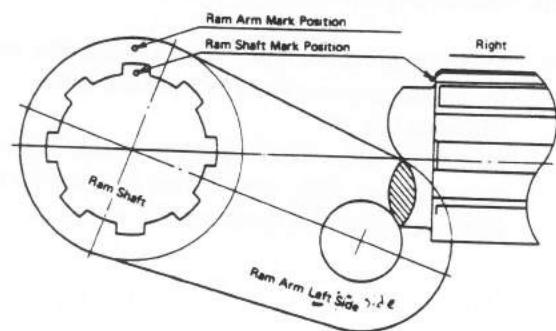

Fig. 15 Setting Position of Ram Shaft and Ram Arm
4. Install the ram shaft (9) in the ram arm (8) which is installed in the hydraulic lift case. For the position of the spline, match the marks as shown in Fig. 15.